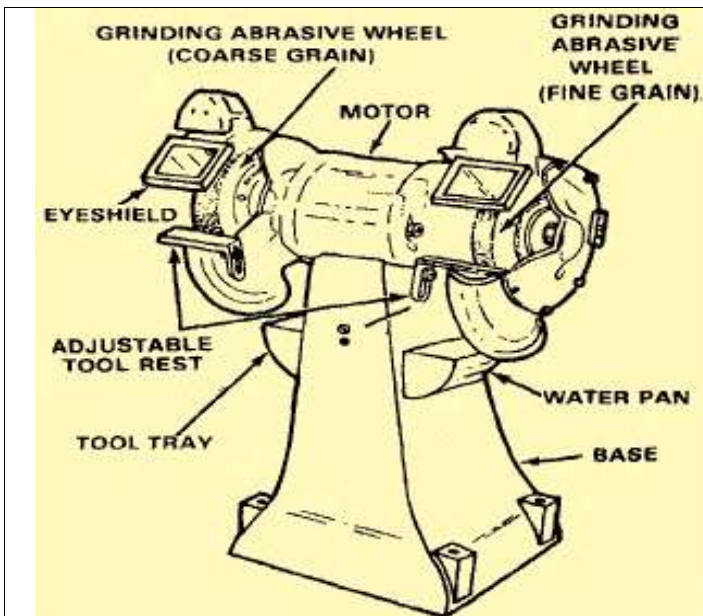

Figure 5-1. Floor mounted utility grinding machine
**Floor Mounted Utility Grinding Machine:** The typical floor-mounted utility grinding machine stands waist-high and is secured to the floor by bolts. The floor-mounted utility grinding machine shown in Figure 5-1 mounts two 12-inch diameter by 2-inch-wide grinding abrasive wheels. The two wheel arrangement permits installing a coarse grain wheel for roughing purposes on one end of the shaft and a fine grain wheel for finishing purposes on the other end this saves the time that would be otherwise consumed in changing wheels.